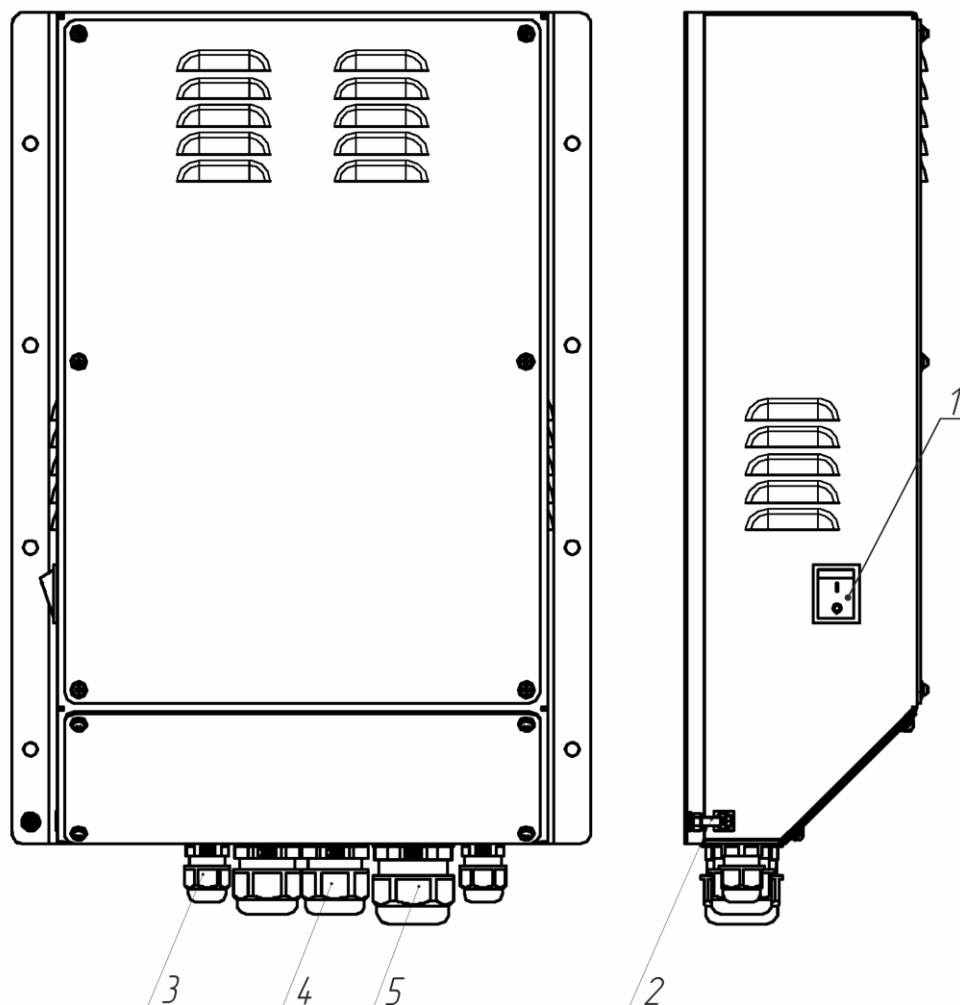

Figure 1 – The Product
1.3.1 The Product is manufactured in metal casing, which has a mounting to vertical bulkhead. A piano type on/off switch with a main power LED (green) is located on the casing side. The LED operates when the switch is turned to power “ON” position (Figure 1).
Note – See positions (№) in Figure 1.